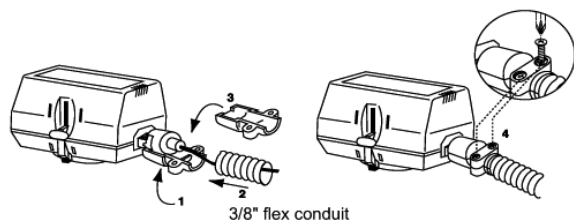

Fig. 3. Flexible Conduit Attachment
2. Connect leadwires. See Figure 3 for flexible conduit installation with plenum-cable models.